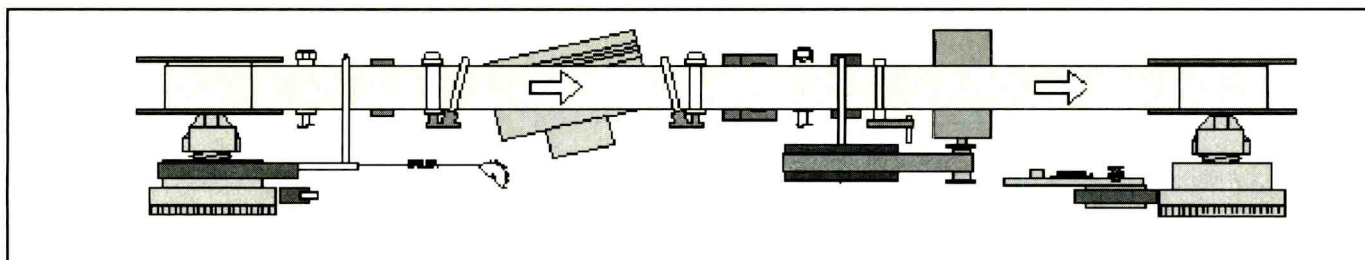

Figure 1. A generalized drawing of the path of the tape through a VCR.
12. Power supply integrated circuits (IC)
- Figure 1 is a generalized picture of the path of the tape through the VCR.